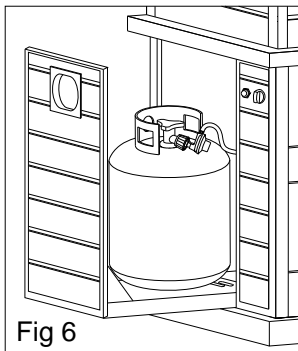

Fig 6
3. Connect the regulator and the tank as per Fig.6. Check for leaks.